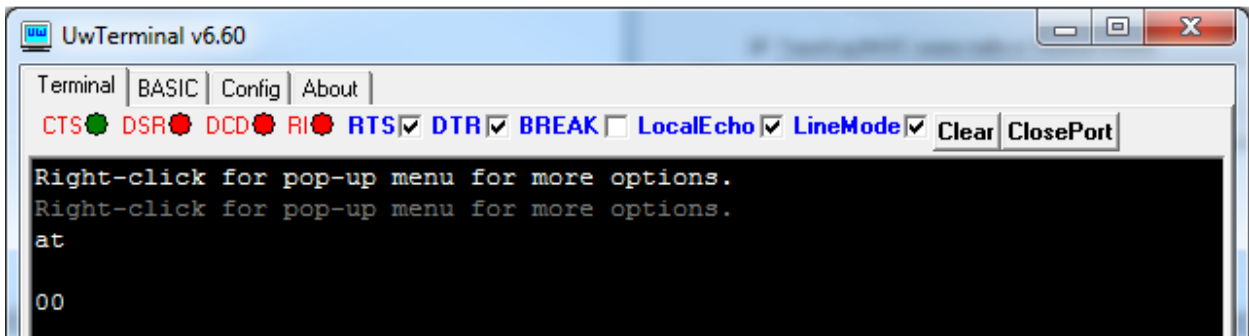

Figure 4: Comms OK
- Confirm that you can communicate with the development board by typing *at* followed by a return. The module should respond with *00*. (Figure 4)